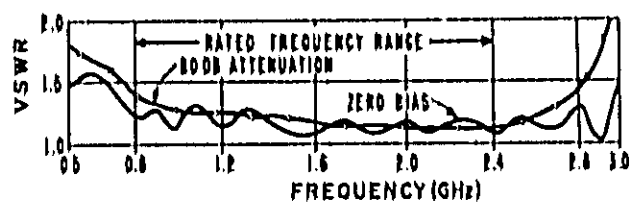

Figure 7. Typical SWR of a Pin Modulator (8731B)
20. The PIN Modulator has a good impedance match at all levels of attenuation over its frequency range. This match is illustrated in Figure 7 which shows the SWR of a typical PIN Modulator measured under both zero bias and maximum forward bias conditions. Hence, with this constant match, frequency pulling effects due to the PIN Modulator is negligible. If the PIN Modulator is used outside specified frequency range, SWR characteristics will be degraded in addition to other operating specifications. However, spurious responses can result when exceeding specified frequency range. Note: exceeding band limits by a large degree is not generally practical.